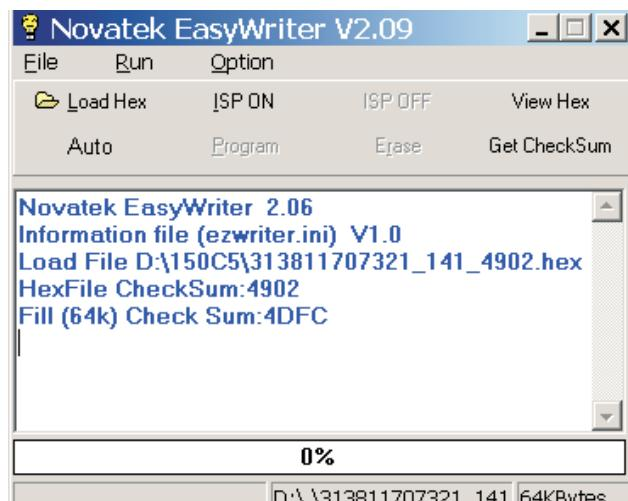

Fig. 11
- Press the AUTO to running program , the firmware be updated as shown in Fig. 11~12.